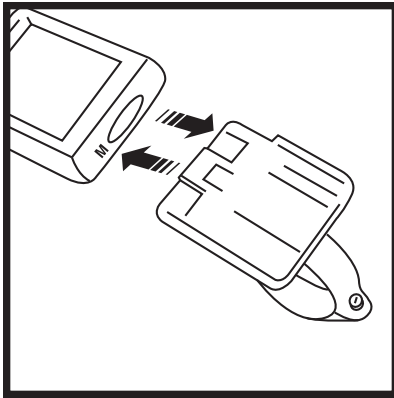

Fig. 20
4. Attach the bracket to the handlebar, on the right-hand side of the stem. Position the bracket end with the Phillips head screw nearest the rider (Fig. 20).
mounting bracket for support (Fig. 20).